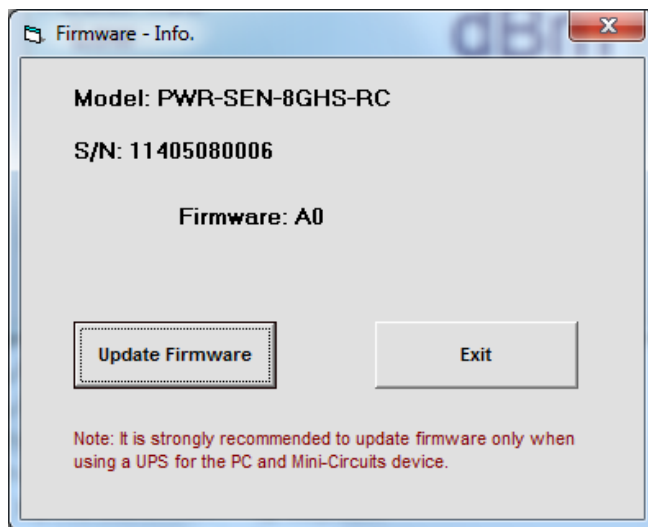

Figure 3.8.4: Firmware Information Window
3.8.4 **Click on the '(fw)' indicator**, this will cause the firmware - info window to open (See Fig. 3.8.4). The 'Firmware' listed is the version of the firmware installed in your smart power meter. Click on "Update Firmware" to select a new firmware version to install or click 'Exit' to close the firmware – info window.